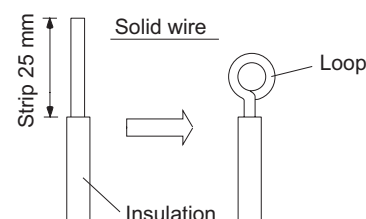

Fig. 2-213
- (1) Cut the wire end with a cutting pliers, then strip the insulation to expose the solid wire about 25 mm. (Fig. 2-213)
- (2) Using a screwdriver, remove the terminal screw(s) on the terminal plate.
- (3) Using the pliers, bend the solid wire to form a loop suitable for the terminal screw.
- (4) Shape the loop wire properly, place it on the terminal plate and fix it securely with the removed terminal screw using a screwdriver.